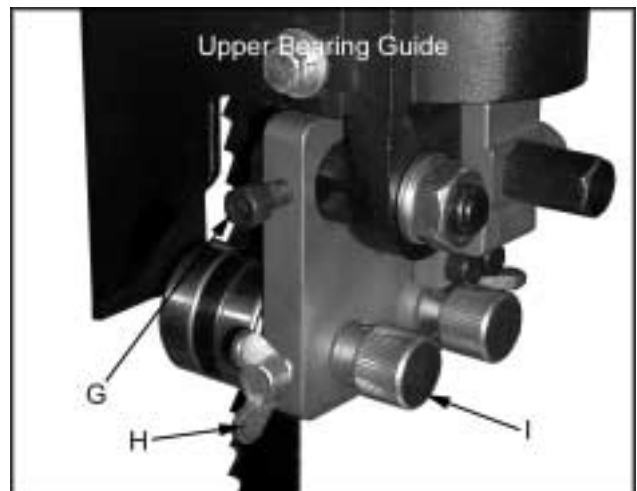

Fig. 3
4. Loosen the socket head cap screw (G, Fig. 3) and slide the bearing assembly until the bearing guides rest just behind the gullet of the blade teeth. You may need to readjust the back-up bearing.
5. Loosen the wing nut (H, Fig. 3) and turn the adjusting screw (I, Fig. 3) clockwise or counter-clockwise until the bearing is 0.003" away from the side of the blade, about the thickness of a piece of paper. Tighten wing nut.